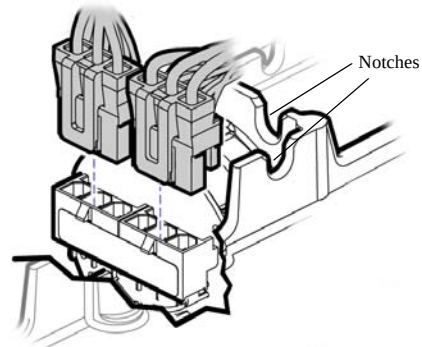

Figure 13-5: Connect CU Motor Harnesses to Motor
7. Connect (2) CU motor harnesses to motor. See Figure 13-5.